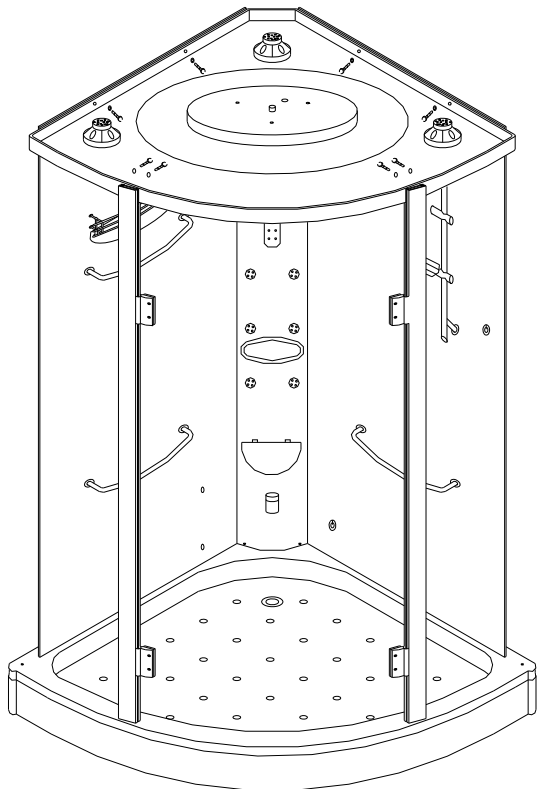

fig. 6
5. Install the fore pillar , top cover---Use the bolts to join the top cover and the fore pillar at first, then lift them to the basin, insert the fore pillar to the immobility block on the basin. Connect the top cover with the upper of each side glass by two bolts (you can put the top cover and the fore pillars to the place as fig.6 shows, use your hands to hold it, and then install the bolts as fig6 shows, then screw it tightly.)